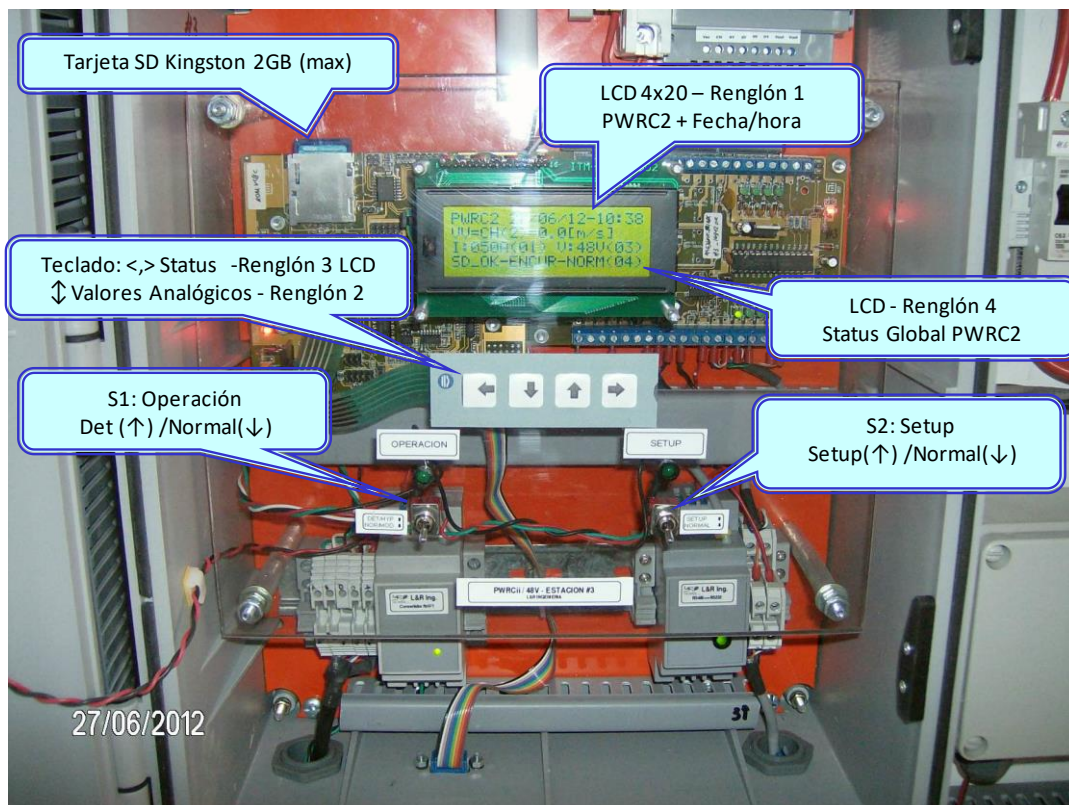
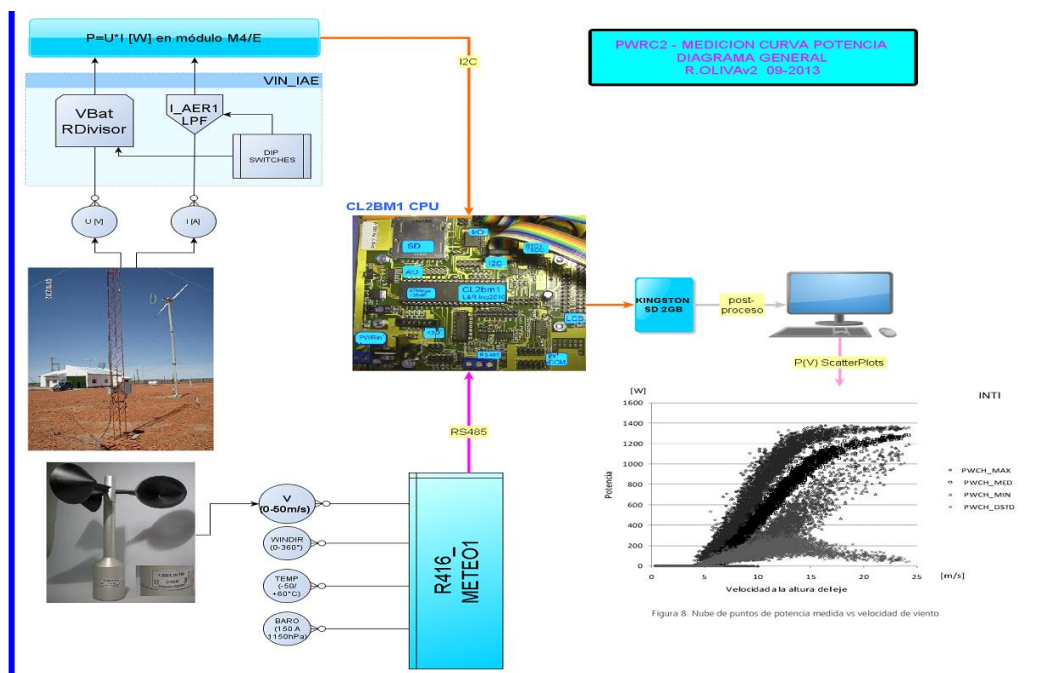

Figure 1– PWRC2 system unit #3, configured for 48V/50A (INTI Cutral-Co – Neuquén)
Figure 3 – Principle of operation of the PWRC2/BattChg System for testing power curves in small wind chargers
The PWRC2 has a simple user interface via LCD, a 4-contact touch keyboard and two operation switches, through which most functions can be adjusted. The operation switches located on the front panel (S1 - Operation and S2 - Setup) allow users to select the basic operating modes (Figure 1). PWRC2s can be connected to a PC through a serial or USB cable to modify special or calibration parameters (Setup mode), using a specific application or a standard terminal type program1. On top left of the front panel the socket for the 2GB Kingston SD card that serves as storage unit for the test files can be accessed.
PWRC2 equipment facilitates the application of this standard and is based on the simultaneous acquisition of wind turbine variables (for power measurement) and meteorological variables from a measurement tower located so as to capture the wind incident on the turbine at the rotor height (Figure 3).
V.1.c) Status of the front panel switches S2,S1 These S2, S1 switches appeared in Figure 1 and in Figure 3, and determine the following:
This Global\_Status variable (permanently displayed in line 4 of the LCD, see Figure 1) is what controls the future evolution of the program. It is computed as a weighted sum: